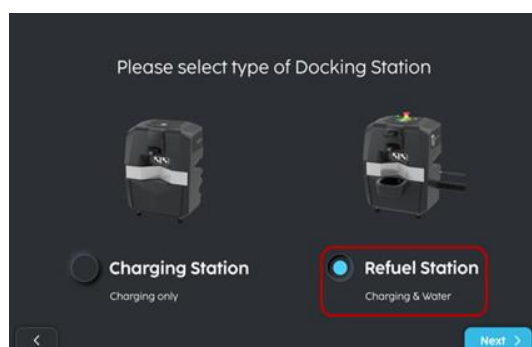

FIGURE 3-23
4. Select 'Refuel Station' (Fig. 3-23)